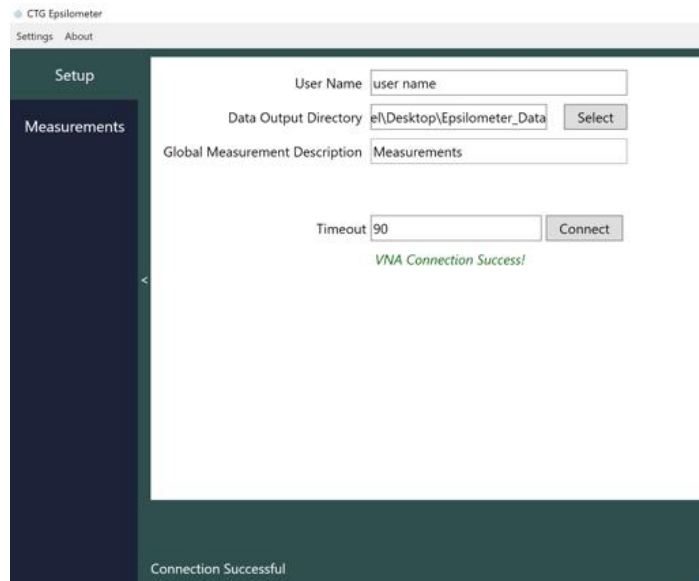

Figure 5. VNA Connection Success.
8. RVNA will open and CTG Epsilon initial "Setup" screen will display the message "VNA Connection Success!" (Figure 5)